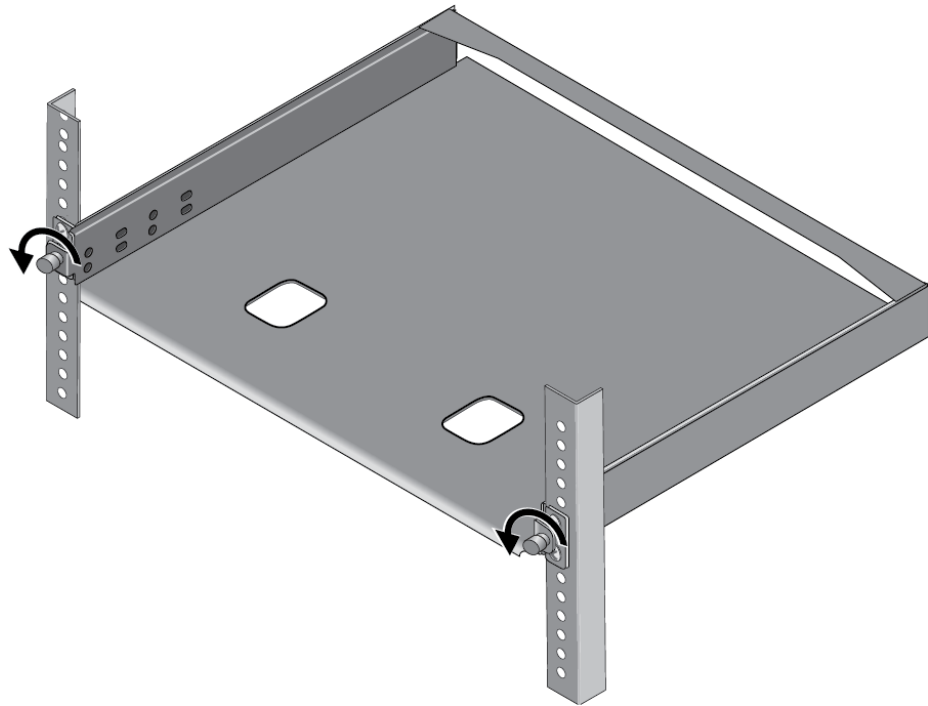

Figure 57. Loosening the Two Thumbscrews on the Front of the RKMT-J15 Bracket
2. Loosen the two thumbscrews on the front of the bracket. Refer to Figure 57.